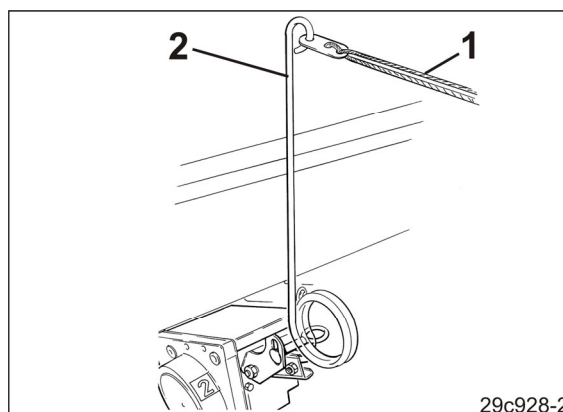

Fig. 125
13. Route the rope (Fig. 125/1) to actuate the operating lever (Fig. 125/2) of the control box (if equipped) in the tractor cab.